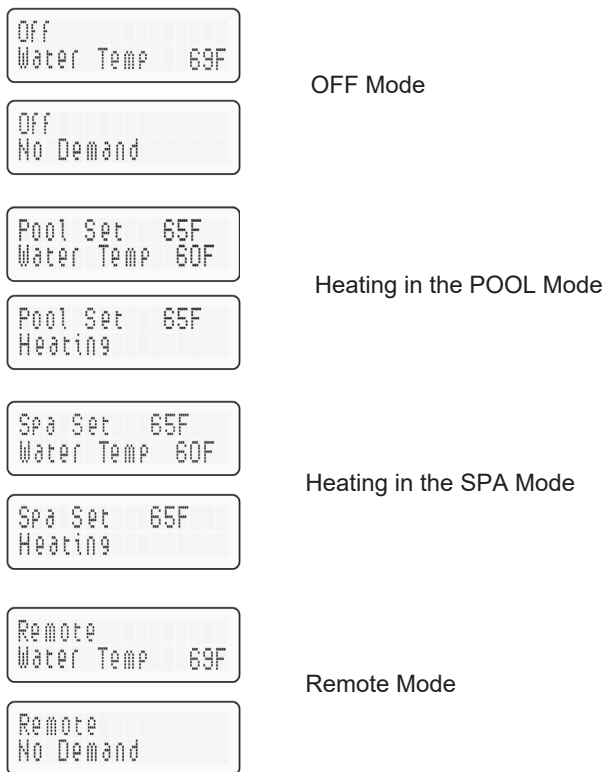

Figure 53. Remote Control Menu - Remote Operation
**⚠ CAUTION: Before installing remote controls to the digital heaters, read the following:** The digital thermostat model is remote-ready in most cases. The digital liquid crystal display (LCD) shows the actual pool temperature, operating status, and service codes. See Figure 53. The touch pad on the control panel allows you to select the desired pool or spa temperature. It also indicates when a remote system is controlling the heater by displaying Remote in the display. When connecting the heater to a remote system, identify whether it is a two- or three-wire remote system. Select the appropriate instruction listed below to properly install the remote to the heater.